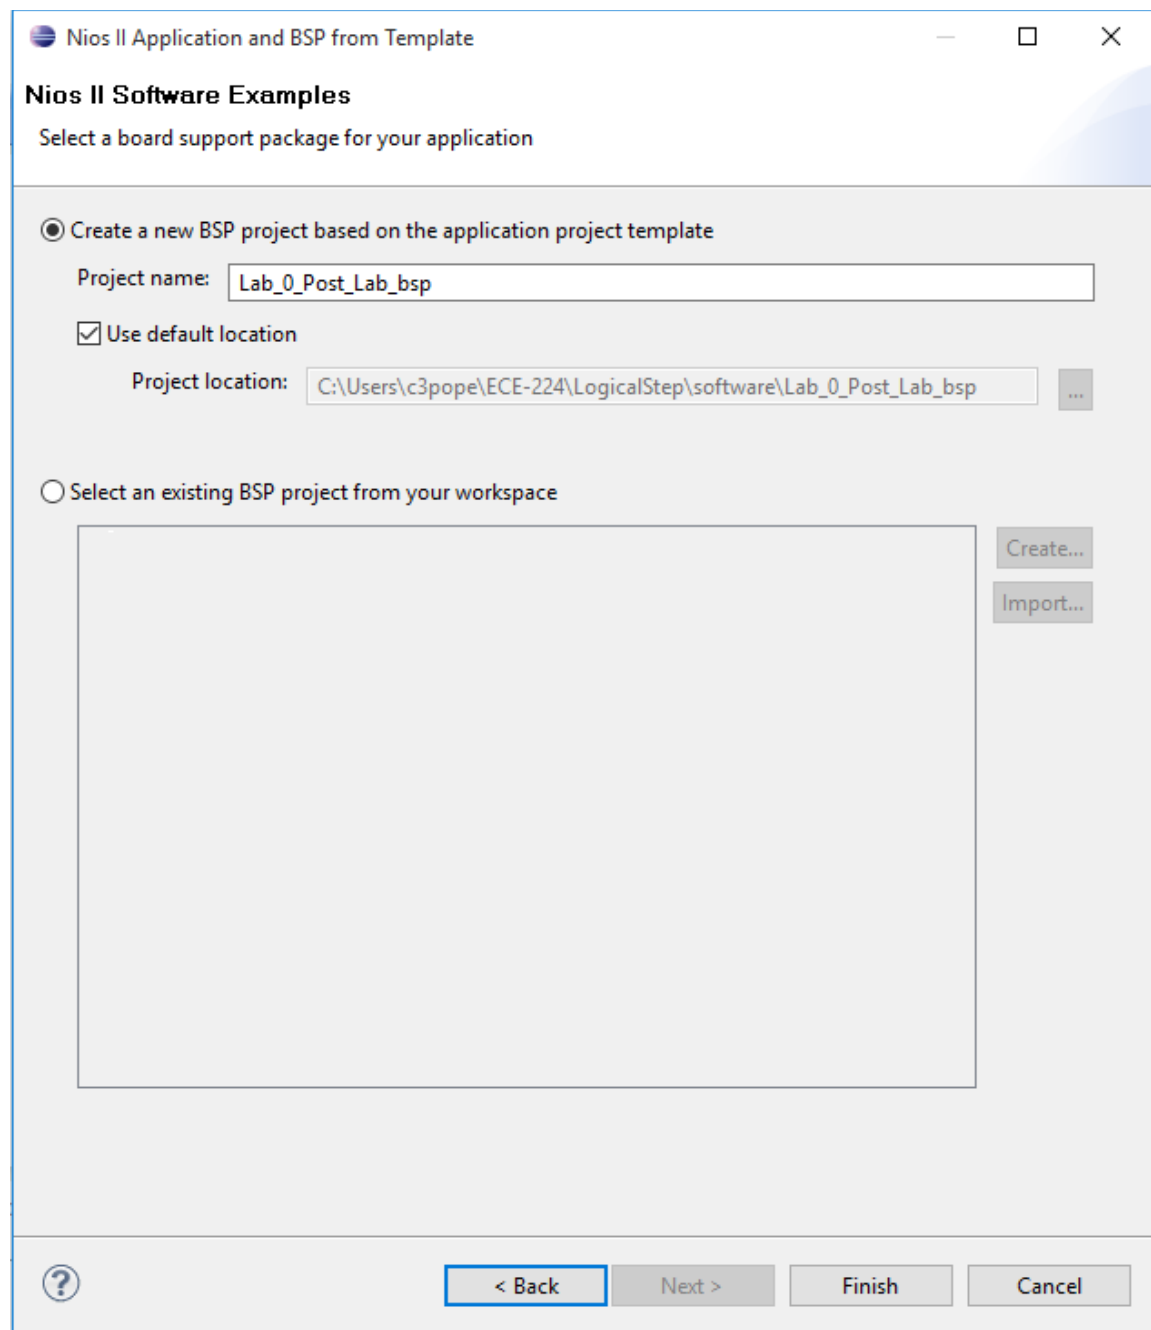

Figure 38: Creating a BSP Project to couple with the Lab_0_Post_Lab Project
7. Refer to Figure 38 to create the new BSP project to be coupled with the Lab_0_Post_Lab project. Click on the “Select a new BSP project based on the application project template”. Let the project BSP file default to the Lab_0_Post_Lab_bsp value. Leave the “Use default location” box selected.